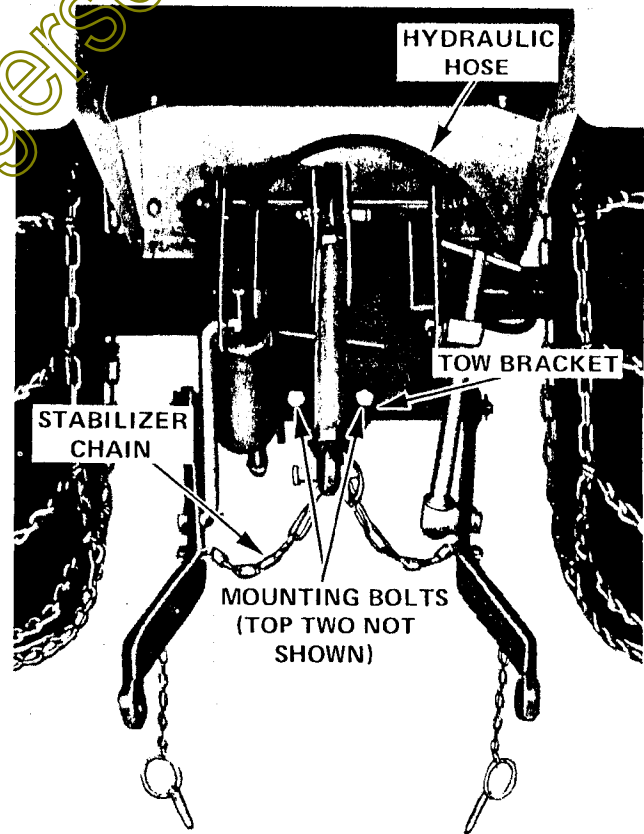

FIGURE 6
6. Remove the two rear seat support mounting bolts and lockwashers. Position the 3-Point Hitch Assembly on the seat support and transmission housing and secure with the same two bolts and lockwashers. See Figure 6.